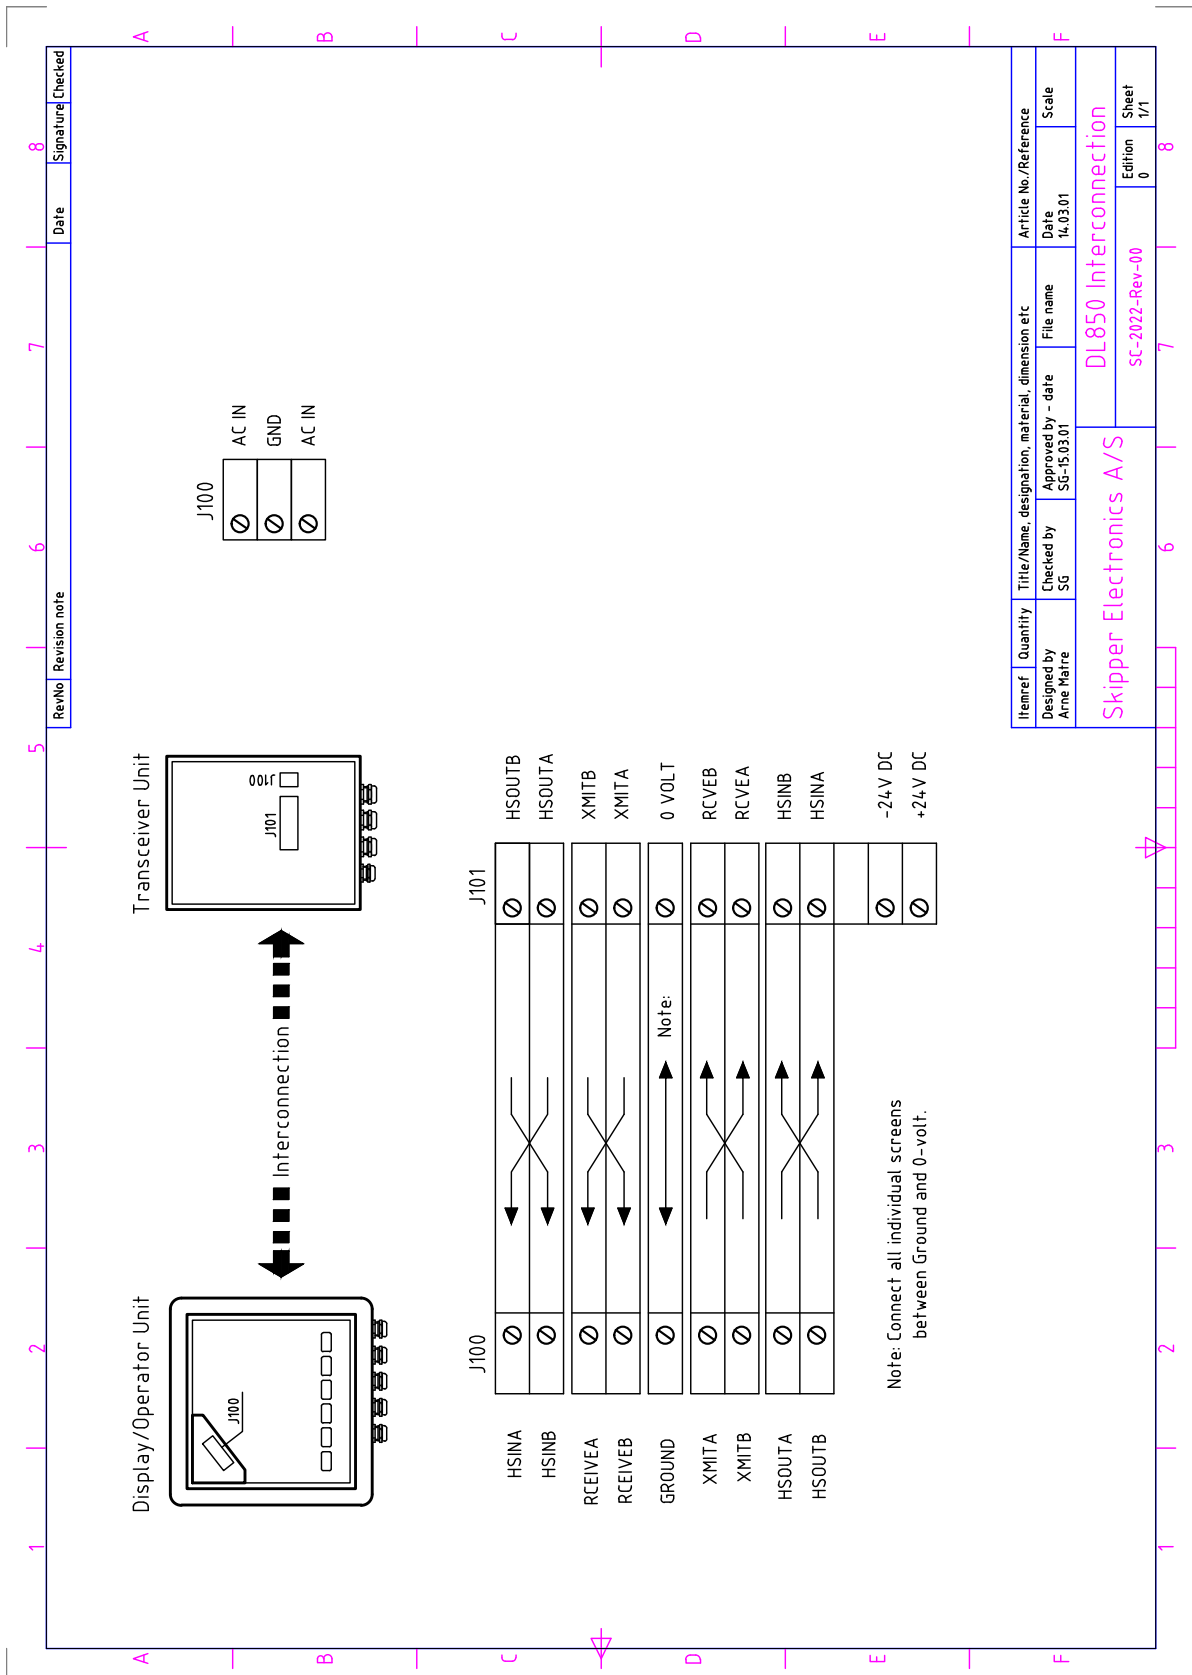

Fig. 10.4. Transceiver unit - operator unit interconnection
- Fig. 10.4. Interconnection diagram between the operator unit and the transceiver unit.